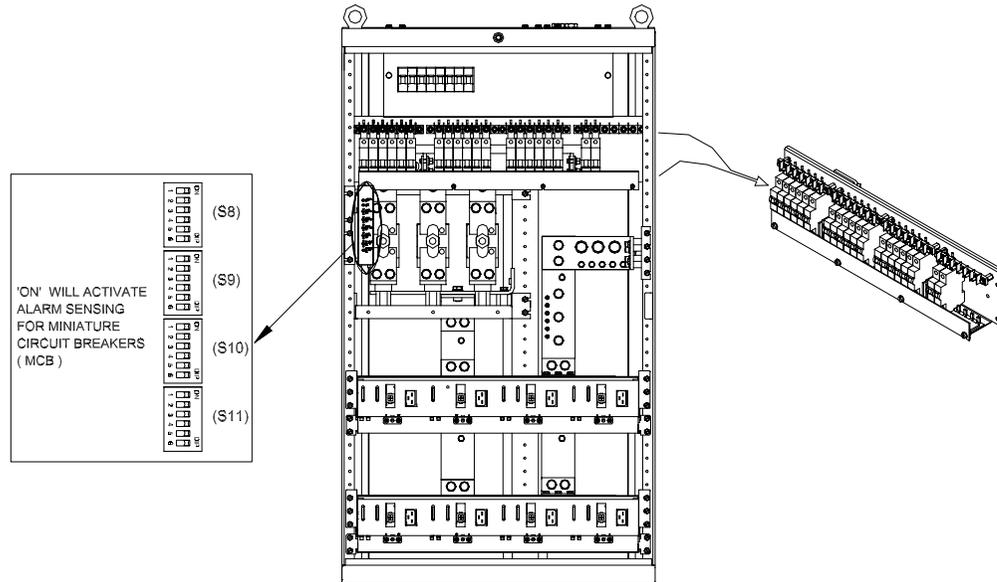

Figure 13-9: Detail of DC Distribution Panel
- DC distribution (see Figure 13-9)
(See Figures 13-9 and 13-10)